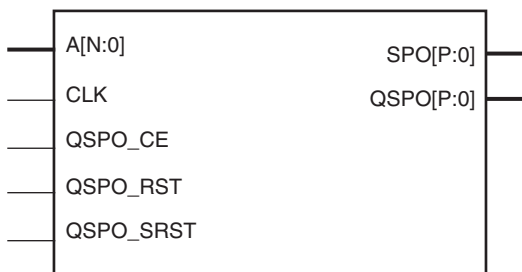
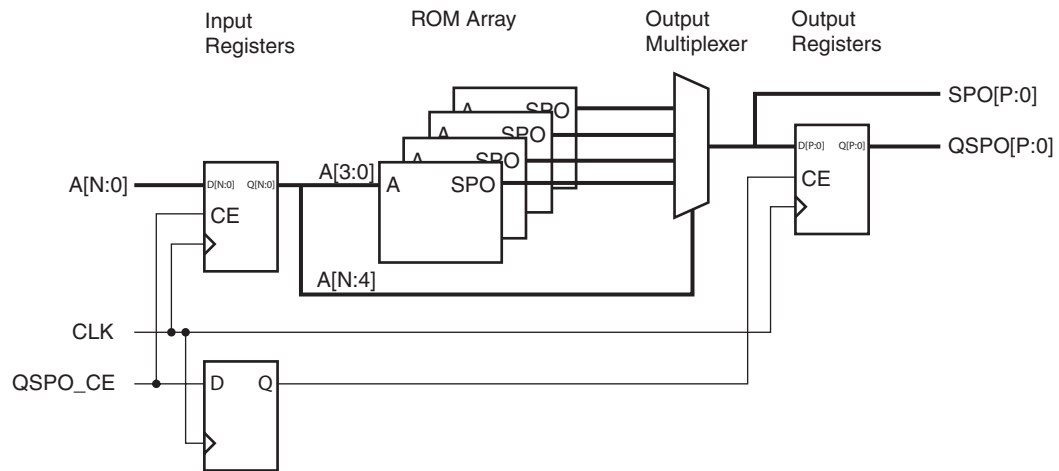

Figure 1: Distributed ROM Schematic Symbol
Figure 2: Distributed ROM Module Schematic
To create the distributed ROM, the core parses the initialization data provided by the user-supplied COE file. From that data, any necessary logic or optional registering is inferred and created. **Figure 1** shows the distributed ROM schematic symbol, and **Figure 2** illustrates one of the possible implementations of a distributed ROM core. For distributed ROM timing information, see the user guide for the specific platform-related architecture.
- **ROM.** Figure 2 illustrates a schematic of the structure of the ROM modules. The address register is optional (controlled by the setting of the Input Options parameter). Output registering is also optional (controlled by the setting of the Output Options parameter). Note that the clock is not required when these registers are not present. The resets and clock enables are optional.